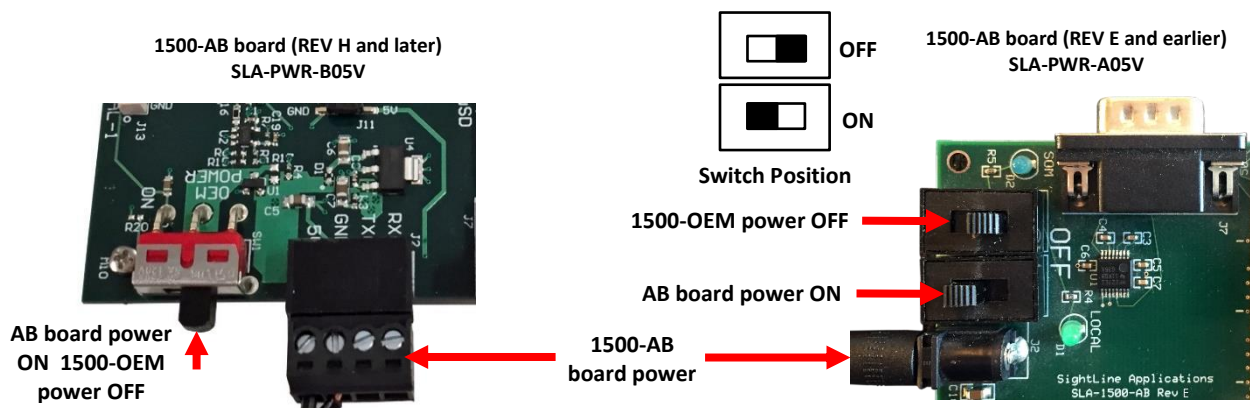
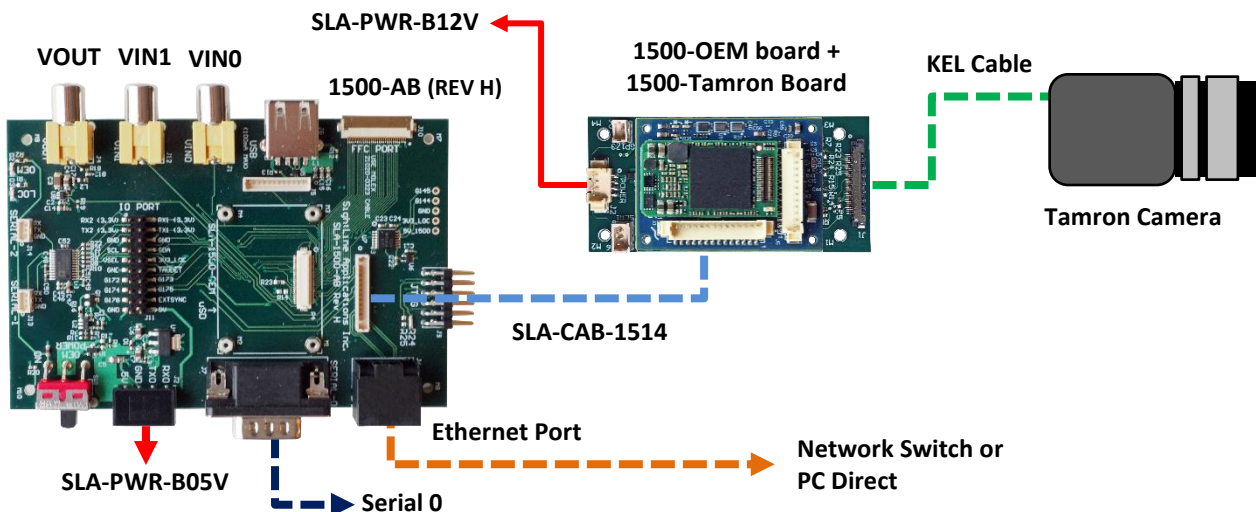

Figure 2: 1500-AB Board Power Connections
Figure 3: 1500-OEM Tamron Camera Bench Setup
REV H and later 1500-AB boards have a single power switch. REV E and earlier boards have a dual power switch. REV H and later boards are immediately powered on when power is connected. If using the 1500-AB board in a bench setup, review Figure 2 and Figure 3 prior to making power connections.
- ⚠ **CAUTION:** Power to the 1500-OEM board is provided through the 1500-Tamron interface board using the SLA-PWR-B12V power supply shown in Figure 3. Powering the OEM through the J3 power pins and through the 1500-Tamron board can damage the OEM.
- ⚠ **CAUTION:** DO NOT power up the 1500-OEM board from the 1500-AB interface board. The power switches should be set to the positions shown in Figure 2 (AB board power ON / 1500-OEM power OFF). Long term over powering will permanently damage the 1500-OEM board.
6. Connect the SLA-PWR-B12V supply (12V) to an AC power source. This will power the camera, Tamron adaptor board and the OEM assembly. **Do not** apply power the 1500-OEM from the AB board (see Figure 2).